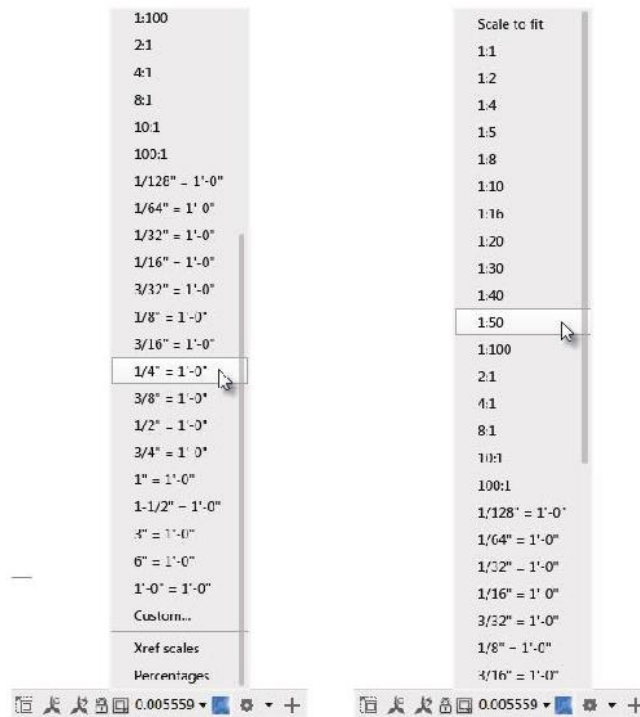

FIGURE 14.22 Selecting the imperial viewport scale (left) and the metric viewport scale (right)
12. Click the Viewport Scale button and, from the drop-down list, choose $1/4" = 1'-0"$ (1:50), as shown in Figure 14.22.